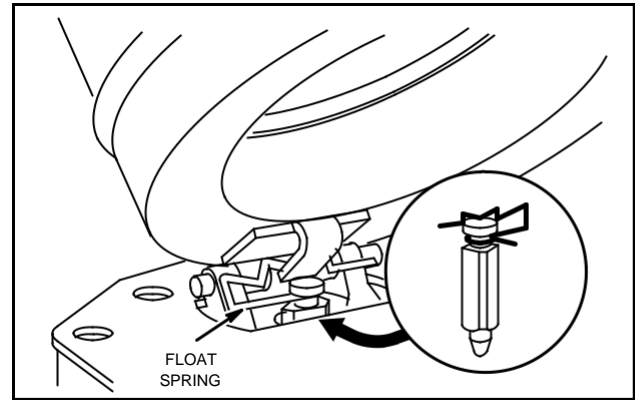

Fig. 36 – Install Float
4. Assemble spring to fuel inlet valve, Fig. 36.